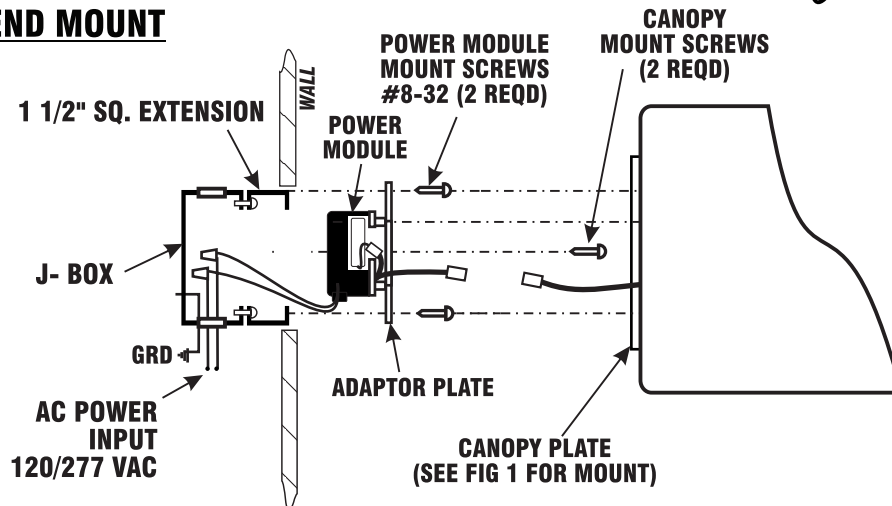

**FIG 1**
3. See Fig.1 and 2 below. Route LED connector through slot in top of housing and through canopy. Insert 6-32 X 3/4" flat head screws into housing and lock down two nuts firmly. Run flat washers on screws, position canopy, and firmly tighten two lock nuts as shown.